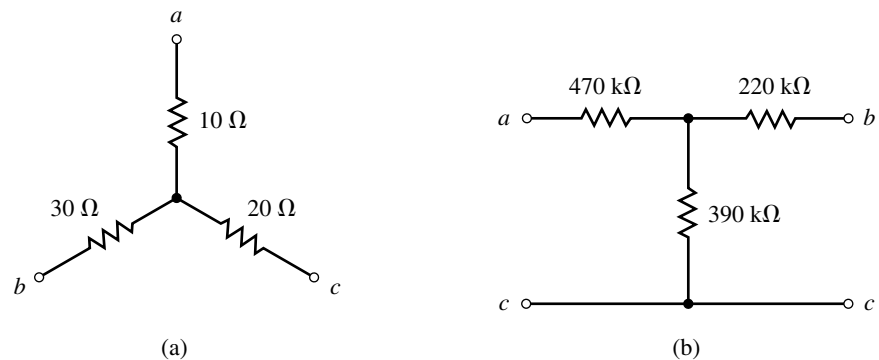

FIGURE 8–94
42. Convert each of the Y networks of Figure 8–95 into its equivalent Δ configuration.